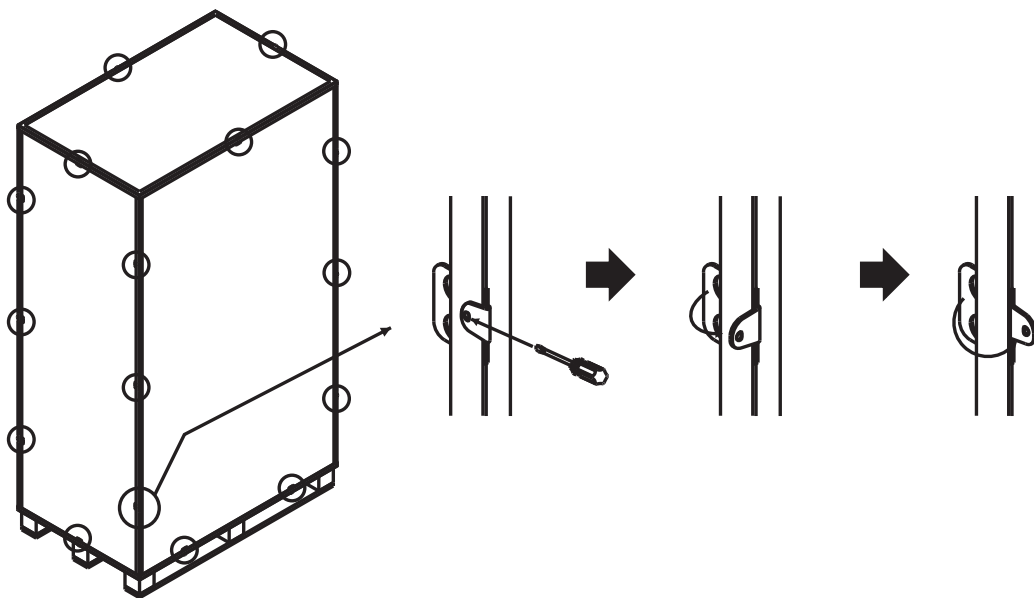
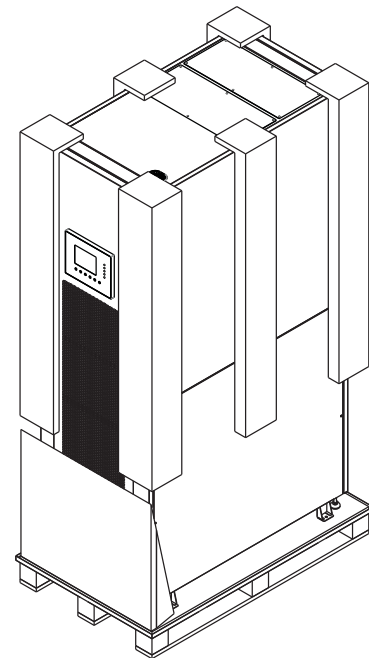

Figure 4.1
Figure 4.2
1. Once the UPS system has arrived at the installation site, it may be removed from the packing box. Follow the unpacking procedure below to remove main carton (Figure 4.1) and protective materials (Figure 4.2).